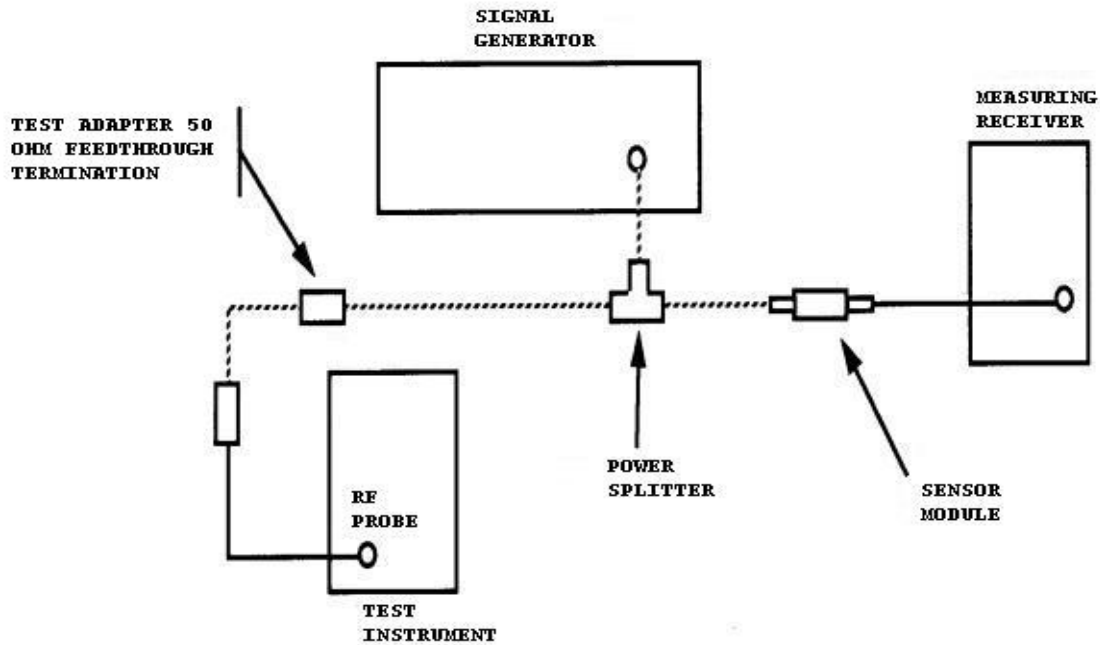

Figure 2. Frequency response - equipment setup.
(6) Connect equipment as shown in figure 2.
(7) Adjust signal generator frequency controls to value listed in signal generator frequency settings listed in table 5.